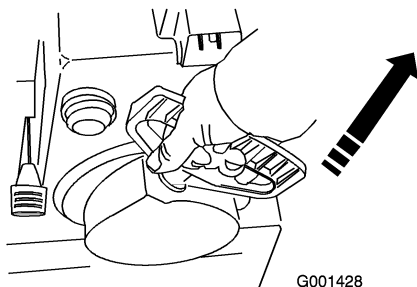

Figure 24
7. Pull the recoil starter (Figure 24).